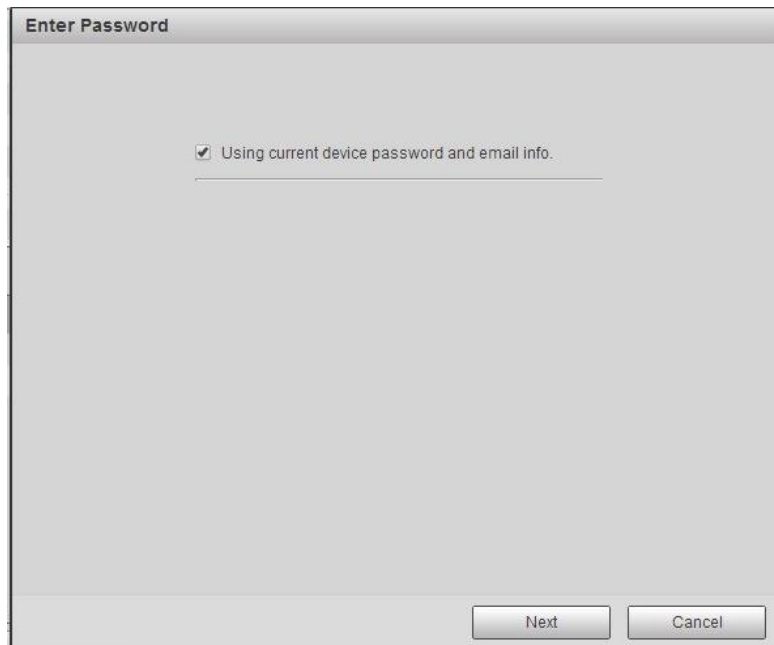

Figure 5-24
- Step 3 Select a camera to be initialized and then click Initialize button. Device displays password setup interface. See Figure 5-24.